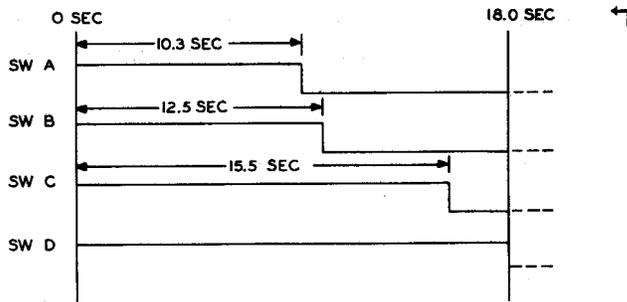

Fig. 6 — A. W. Haydon Timer, P-6421A-1 — Timing Chart
1. Time delay shall be per Fig. 6 when operated on 40 to 50 volts dc.